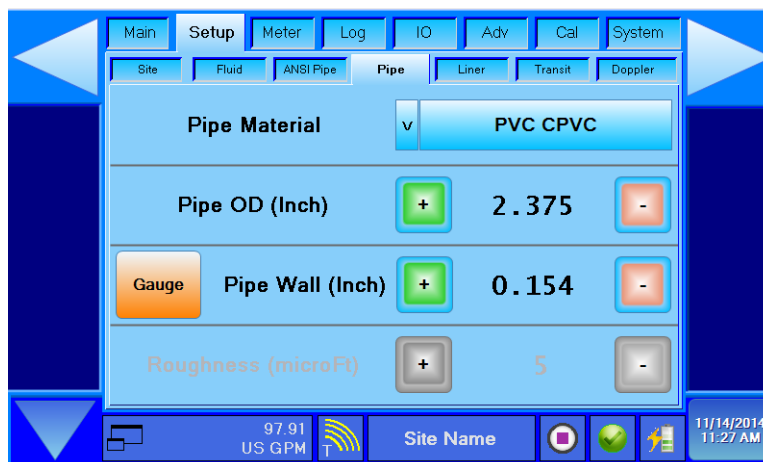

Figure 57: Setup > Pipe
If you select the *Manual Dimension Entry* option in *Setup > ANSI Pipe* (see Figure 57), the parameters in the *Setup > Pipe* page become available. See Figure 55.
2. In the *Setup > Pipe* screen, make sure that the *Pipe Material* and *Pipe OD* have been entered as in Figure 57.
2. From the Setup > Pipe screen, press **Gauge** to enter the pipe gauge wizard (see Figure 57). The Ultrasonic Thickness Gauge wizard appears in Automatic Analysis Mode.